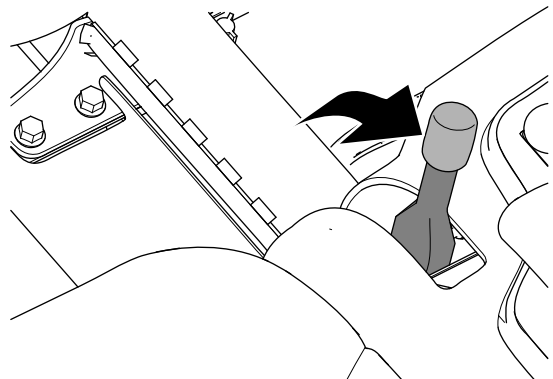

Figure 33
2. Engage the parking brake (Figure 33).